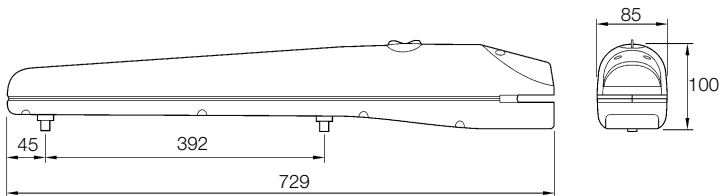

Figure 10
- Check the size limits referring to Figure 10.